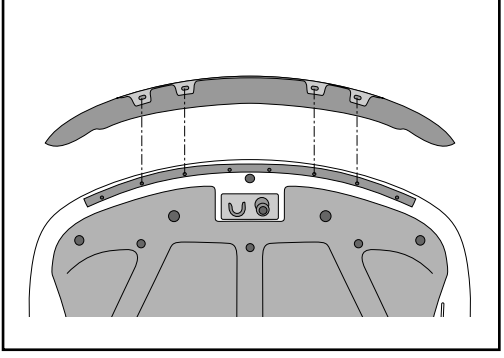

Figure 1
1. Open the hood and secure it using the hood prop. Trial fit the Hood Protector, centering it on the hood. Note the four (4) rubber trim retaining plugs which correspond to the slots in Hood Protector tags. Remove Hood Protector (see Figure 1).